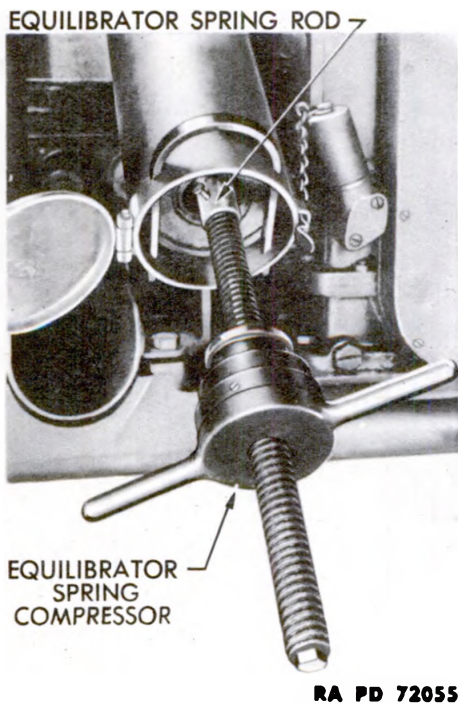

Figure 153 — Equilibrator Spring Compressor — In Place
(3) Attach the equilibrator spring compressor to the end of the equilibrator spring rod (fig. 153). Screw the equilibrator spring compressor sufficiently to force the equilibrator spring retainer away from the U-bar so that the U-bar may be removed. Remove the U-bar.